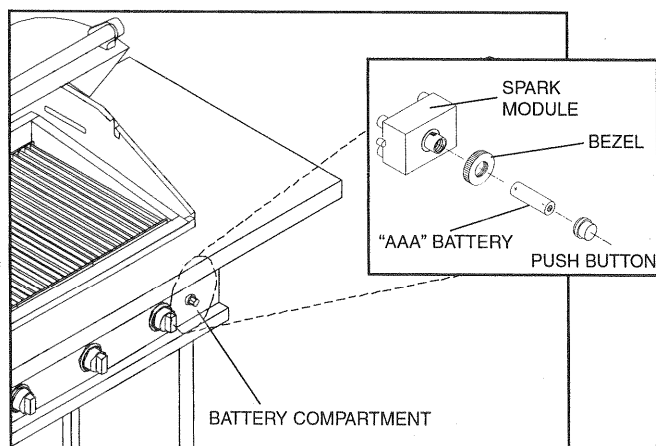

Figure 12. Spark Module Battery Replacement
1. Turn PUSH BUTTON counter-clockwise one-quarter turn and pull out to remove. DO NOT turn and remove the BEZEL (See Figure 12).